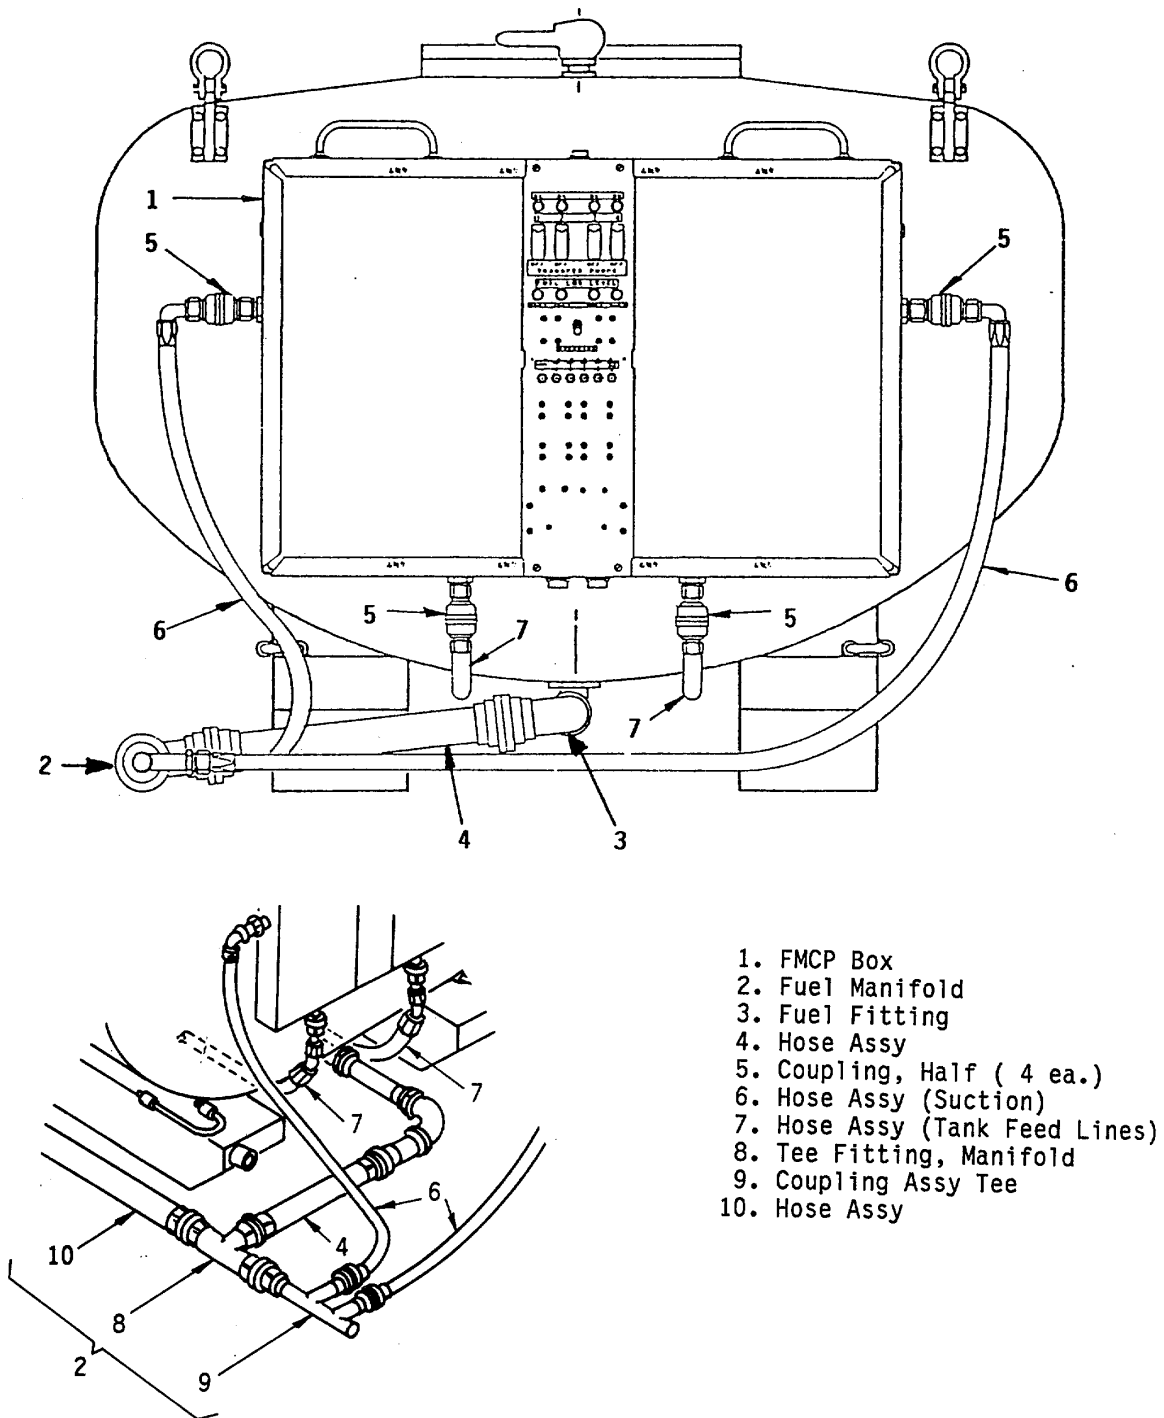
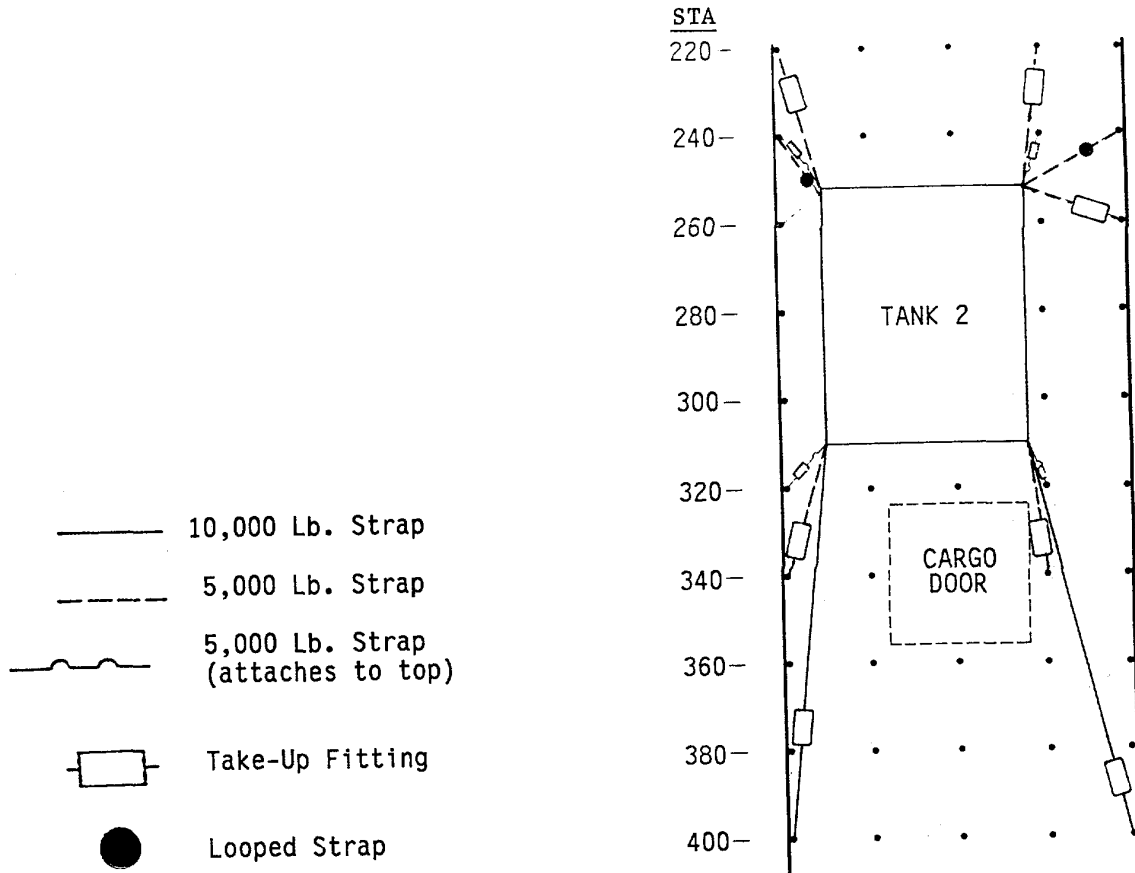

Figure 2-5. Fuel Pumping System and Plumbing
Figure 2-6. ERFS No. 2 Tank Installation and Tiedown
(1) Fuel manifold assembly consists of attaching tee fitting (8) to coupling assembly (9) and hose assembly (10), Figure 2-5.
(2) Secure all four hoses to its respective manifold tee at each tank, Figure 2-5.
e. Install elbow fitting (3) to tank dump fitting, Figure 2-5. Ensure camlock latch handles are either tie wrapped or safety wired to prevent them from opening.
g. Route hoses (7) between tank skids towards aft tanks, Figure 2-5.
h. Connect hoses (7) to FMCP lower couplings (5), Figure 2-5.
i. Connect fuel hose (4) from fitting (3) to manifold tee (8), Figure 2-5.
j. Connect pump hoses (6) to coupling tee (9), Figure 2-5.
k. Using tiewraps (item 17, Appx D), secure 2 inch manifold to floor as close as possible to the R/H tank skid.
l. Position inboard straps for No. 2 tank prior to positioning No. 2 tank, Figure 2-6.
r. Install No. 2 tank tiedown straps, Figure 2-6.